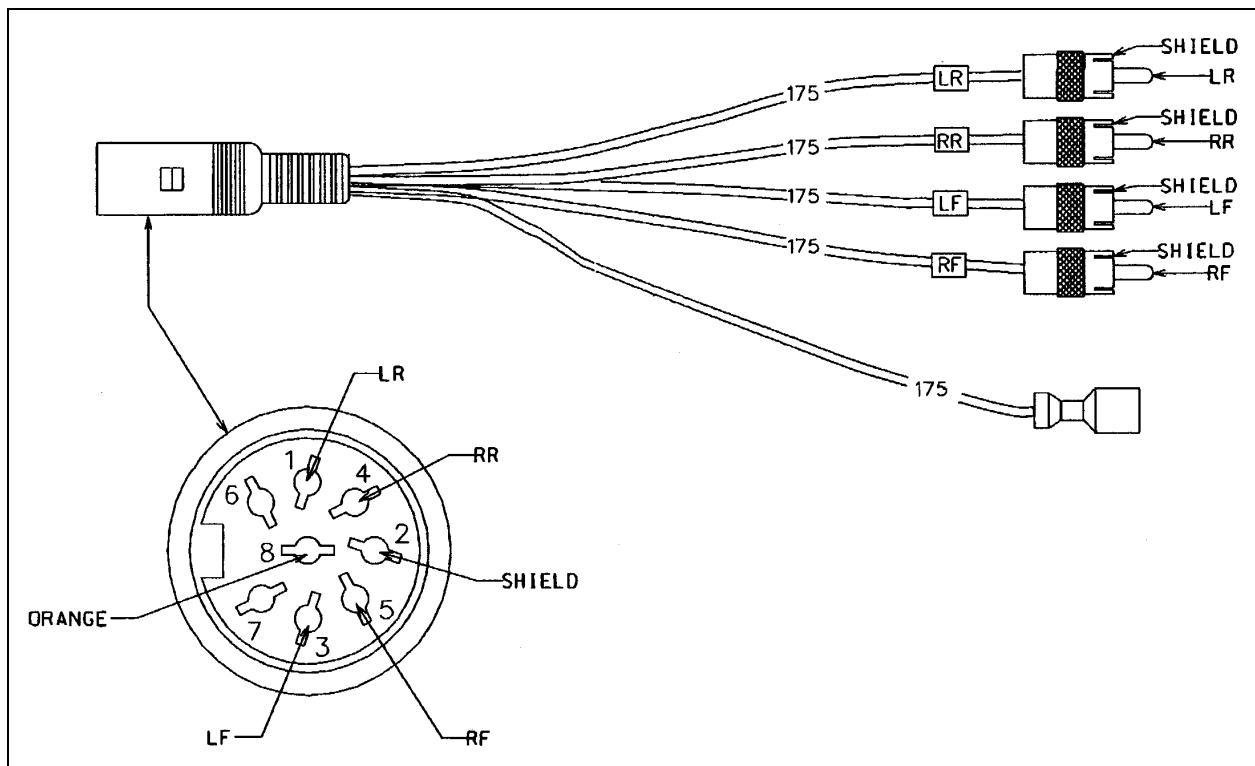

FIGURE 2: CABLE 8-DIN / 4-RCA (PRÉVOST #403917)
6. Locate 8 pin connector, connect cable 8-DIN / 4-RCA (Prévost #403917) to the 8 pin connector (refer to figures 2 and 3). Connect RCA Y adapter (Prévost #900671) between amplifier and 8 pin connector on one of the channels, connect PA REI connecting wire (Prévost #404475) on one of the terminals of Y adapter and ground connecting lug.
7. Locate 8 pin connector, connect cable 8-DIN / 4-RCA (Prévost #403917) to the 8 pin connector (refer to figures 2 and 3). Connect RCA Y adapter (Prévost #900671) between amplifier and 8 pin connector on one of the channels, connect PA REI connecting wire (Prévost #404475) on one of the terminals of Y adapter and ground connecting lug.